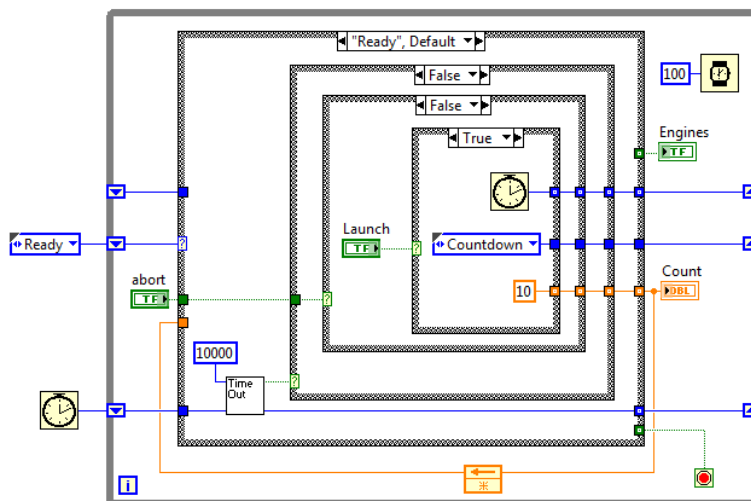

FIGURE 2.16 The Ready state showing the new Shift Register being loaded with the current time.
1. Add a Shift Register, and load it with the millisecond clock as the state machine transitions from the Ready state to the Countdown state, as in Fig. 2.16. Note the use of Use Default if Unwired tunnels.